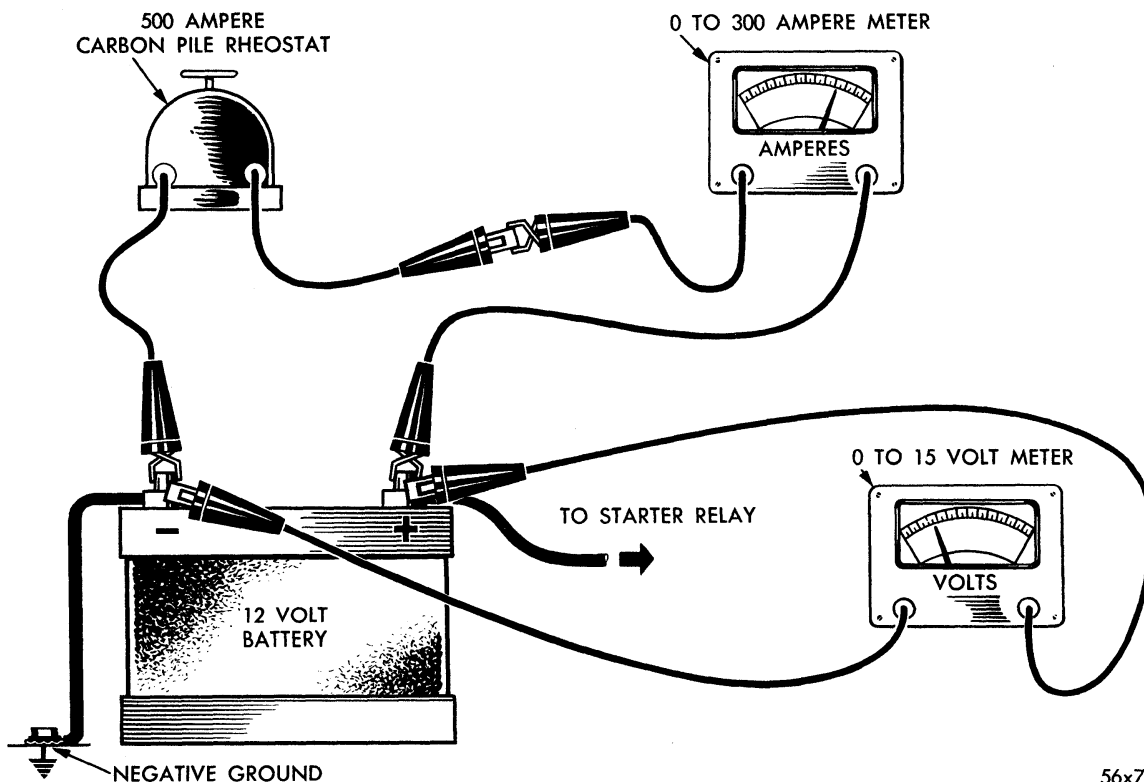

Fig. 2—Test Connections for Battery Capacity Test
(2) High Rate Discharge Test of Capacity (Fig. 2)
Connect a carbon pile rheostat in series with an ammeter and battery, (Fig. 2). **Be sure the carbon pile control knob is rotated to full resistance position before connecting.** The voltmeter clips must contact battery posts **only** and not the high rate discharge tester clips. Unless this is done, the actual battery terminal voltage will not be indicated. Rotate carbon pile control knob until 200 amperes register on the meter. With battery under discharge for approximately 15 seconds, read terminal voltage. If terminal voltage shows 9.5 volts or more, battery has good output capacity.